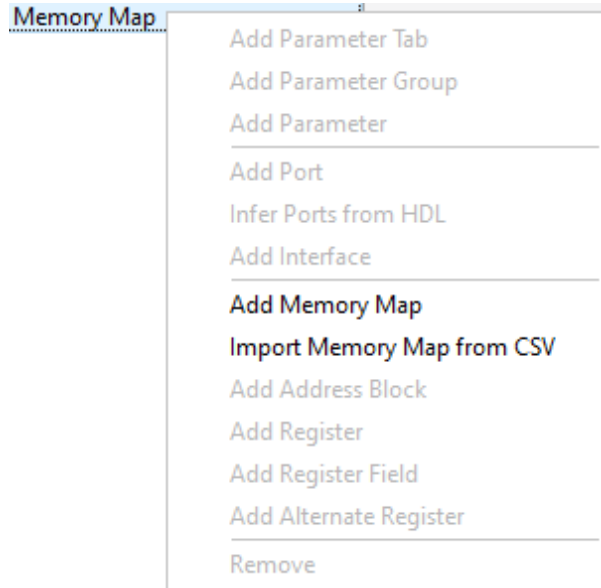
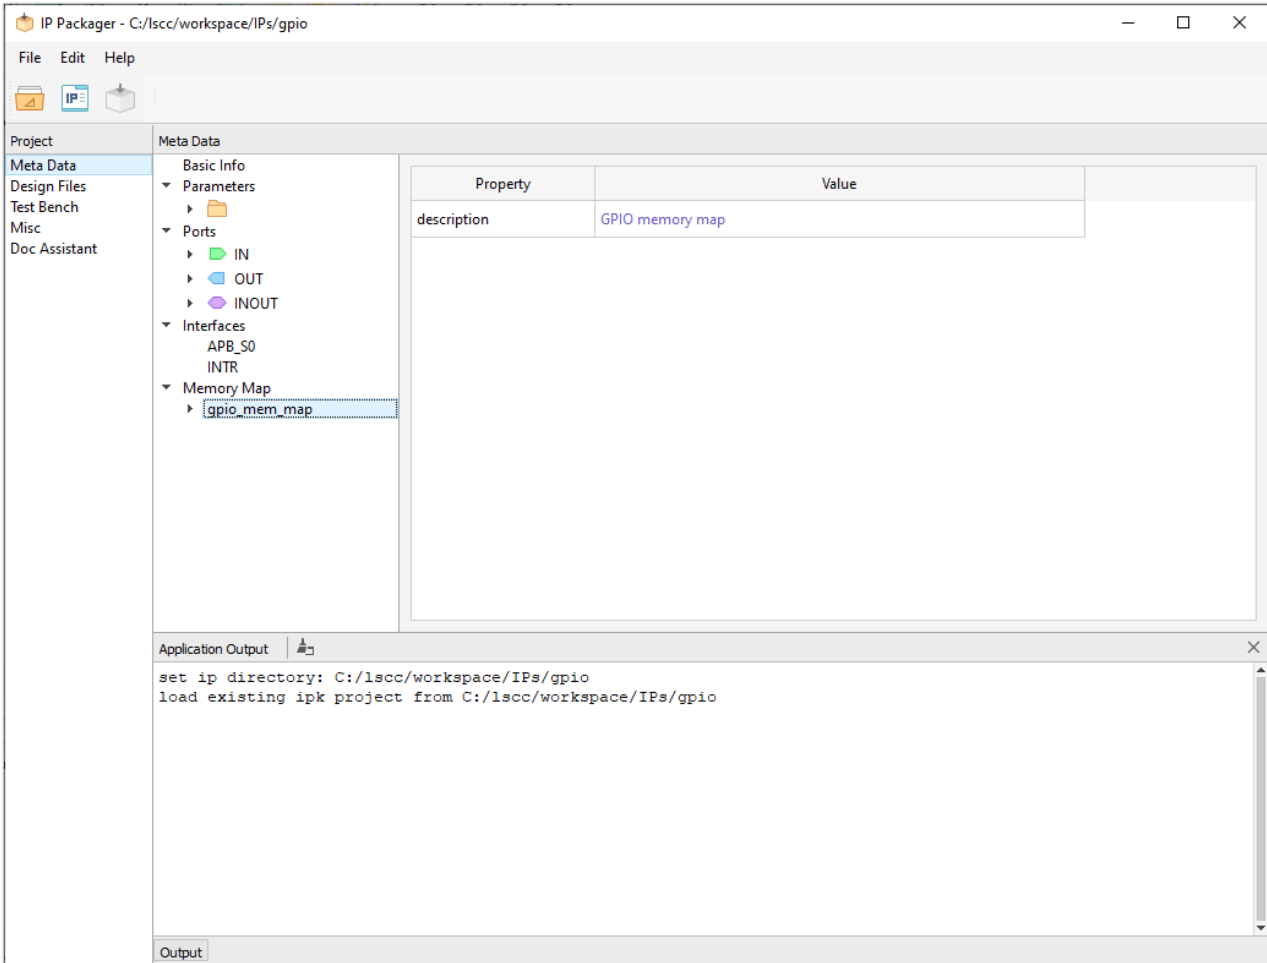

Figure 3.26. Right-click Menu of a Memory Map
Figure 3.27. Generate New Memory Map
- Right-click **Memory Map** from the Meta Data Tree, and choose **Import Memory Map from CSV** (Figure 3.26). New memory map is created (Figure 3.27).